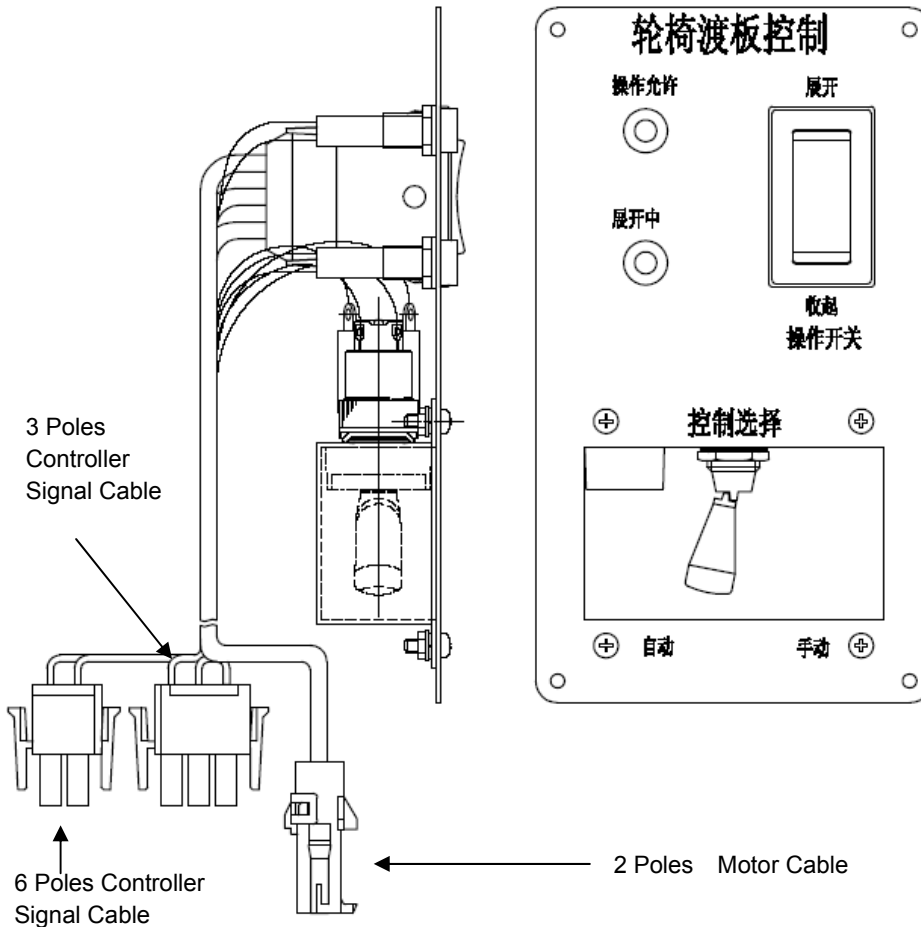

FIGURE 2-25
- a. Refer to **Figure 2-25**. Locate motor cable and controller signal cables located behind the control panel.